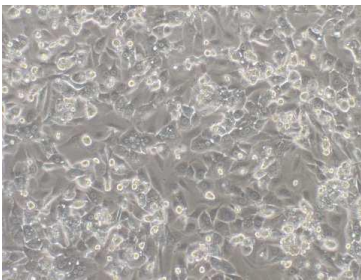

Figure 1
- After 24 hours of culture, hepatocyte-like cells appear as small, individualized, and differentiated colonies, (Figure 1).